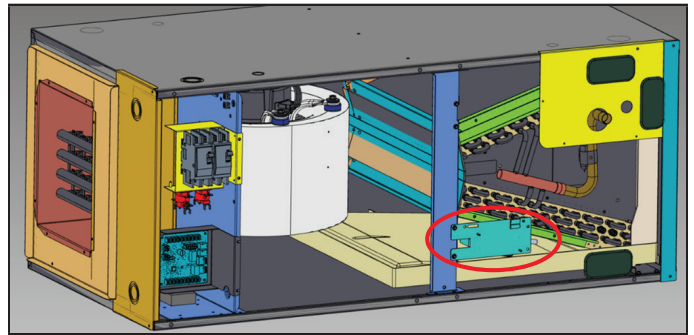

FIGURE 15
- 8 - Install bracket/sensor assembly to the unit by lining up the holes in the center support bracket as shown in figure 15.